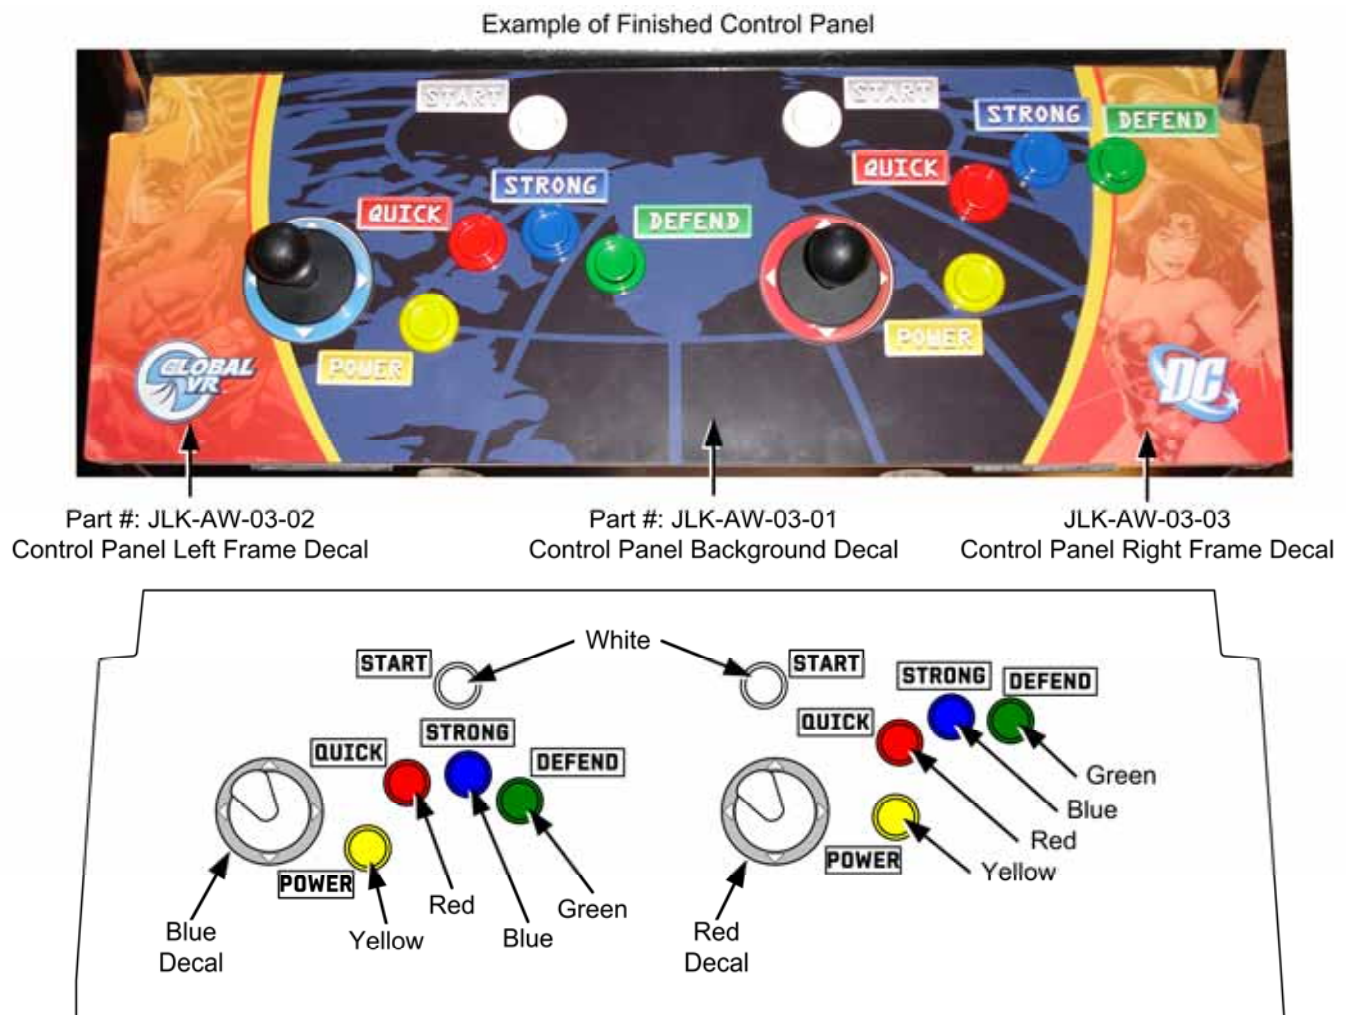

Figure 2. Control Panel Layout
Refer to Figure 2 and the templates at the end of this manual to determine where to drill holes for the buttons and joysticks. Drill the holes **before** applying the decal.
10. Place the Control Panel Left and Right Frame Decals over the control panel decal as shown in Figure 2. Position them so they frame the control panel and the GLOBAL VR and DC logos line up. Trim the edges and any holes as you did for the main decal.
11. Place the appropriate Button Label near each button hole, as shown in Figure 2.
15. Install the buttons as shown in Figure 2.